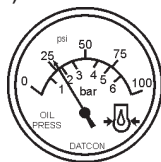

Figure 46. Oil Pressure Gauge
9. The engine oil pressure gauge (Figure 46) will indicate the oil pressure of the engine. Under normal operating conditions the oil pressure is approximately 42 to 71 psi. (290~490 kPa).